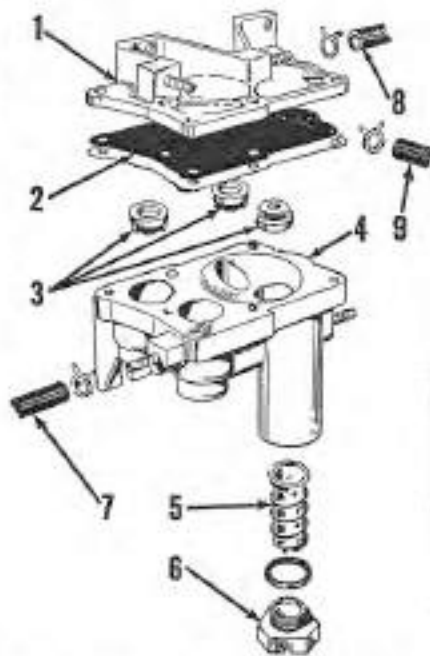

Fig. Mc113 — Exploded view of late diaphragm type fuel pump. Refer also to Fig. Mc112.
FUEL PUMP. All motors are equipped with a two stage, diaphragm fuel pump. Older models use a reed-type check valve between the two fuel chambers as shown at (3—Fig. Mc112). Newer pumps use three identical check valves as shown in Fig. Mc113. Pressure and vacuum pulsations in crankcases of power head are directed to rear of diaphragm as shown in Fig. Mc112. When the power head piston moves upward in its cylinder, vacuum in crankcase draws diaphragm outward as shown. When piston moves downward in cylinder, crankcase pressure forces diaphragm inward into fuel chamber. The check valves permit the fuel to flow only toward the carburetor.
Outlet pressure of the fuel line (7—Fig. Mc113) should be maintained at a minimum of $\frac{1}{2}$ psi at idle speed and 2 psi at 3000 rpm. Fuel outlet pressure at 5000 rpm should
be maintained between the limits of 5-8 psi for two cylinder motors, or 6-9 psi for three cylinder motors. On the late motors, experience has shown that the length of the vacuum hoses is important for best performance. When renewing hoses, maintain the following recommended lengths: First stage hose (8—Fig. Mc113), 4 $\frac{3}{8}$ -5 $\frac{1}{8}$ inches on two cylinder motors; 13-13 $\frac{1}{4}$ inches on three cylinder motors. Second stage hose (9), 5 $\frac{3}{8}$ -6 $\frac{1}{2}$ on two cylinder motors; 5 $\frac{3}{8}$ -6 $\frac{1}{8}$ on three cylinder motors.
Fig. Mc112 — Schematic view of the two stage fuel pump. Hoses (1) connect to two of the crankcase chambers and provide vacuum and pressure pulsations which actuate the pump. Reed type check valve (3) was replaced by disc type check valve in later pumps. See Fig. Mc113.